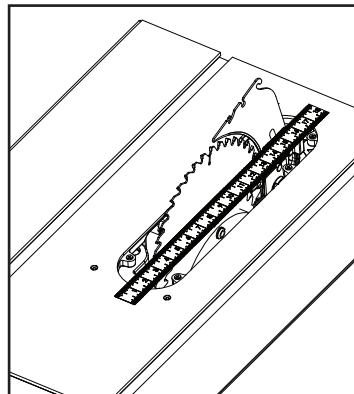

FIGURE 40a
3. Using a straight edge ruler, align riving knife with blade body shown in Figure 40a.